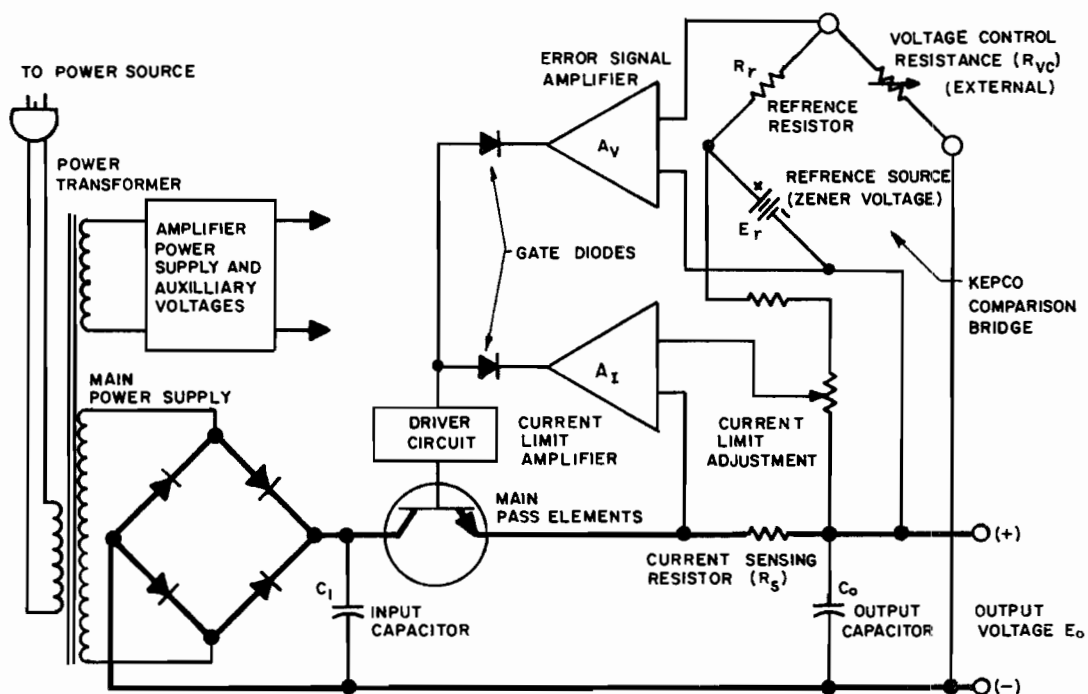

FIG. 4-1 SIMPLIFIED DIAGRAM, PAT POWER SUPPLIES.
(References in CAPITAL LETTERS refer to the nomenclature used in FIG. 4-1.)
4-1 SIMPLIFIED DIAGRAM DISCUSSION. (Refer to FIG. 4-1.)
- a) A-C INPUT CIRCUIT. A-C input power is introduced through rear barrier-strip TB₁ terminals (1) and (2). Terminal (3) is connected to the chassis and should always be returned to a-c ground. The fuse (F1) protects the primary of the power transformer (T201) from excessive current. T201 has two primary windings which are connected either in parallel (for 115V a-c service) or in series (for 230V a-c service).
- e) THE COMPARISON BRIDGE. This 4-arm electrical bridge circuit is the regulating and controlling element in many Kepco Power Supplies. In the PAT models it consists of the reference voltage E_r (CR8), the reference resistor R_r (R15 and the optional bridge current adjustment rheostat R16), the voltage control resistance R_{VC} [either the optional internal control R13 or the resistor externally applied between terminals (11)–(12) on TB1], and the output voltage E_o . As shown in FIG. 4-1, the internal reference voltage E_r in series with the reference resistance R_r is continuously compared with the output voltage E_o in series with the voltage control resistance R_{VC} . At balance ($E_{AA'} = 0$), a constant bridge current I_b flows through the bridge, keeping the error signal at bridge terminals A–A' at approximately zero volts. Any deviation in E_o caused by a-c source, load variations, or other influences will tend to change I_b in the bridge circuit and thereby produce an error signal at the bridge terminals A–A'. This error signal is then amplified by the error signal amplifier A_V and acts as a control signal for the series regulator or pass element changing the voltage drop across it in such a way as to restore the previous output voltage level.